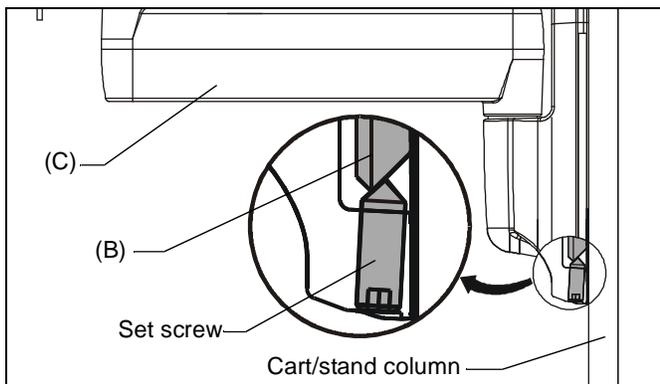

Figure 5
- Tighten set screw using 5/32" hex key (R). (See Figure 5)
CAUTION: IMPROPER INSTALLATION CAN LEAD TO ACCESSORY FALLING CAUSING SERIOUS PERSONAL INJURY OR DAMAGE TO EQUIPMENT! Make sure set screw engages back side of bracket on attachment plate. (See Figure 5)